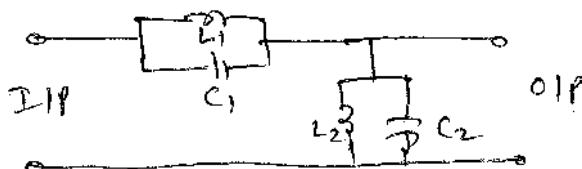

Figure 2
c) Identify the zeroes of transmission for the network in Fig. 2 4